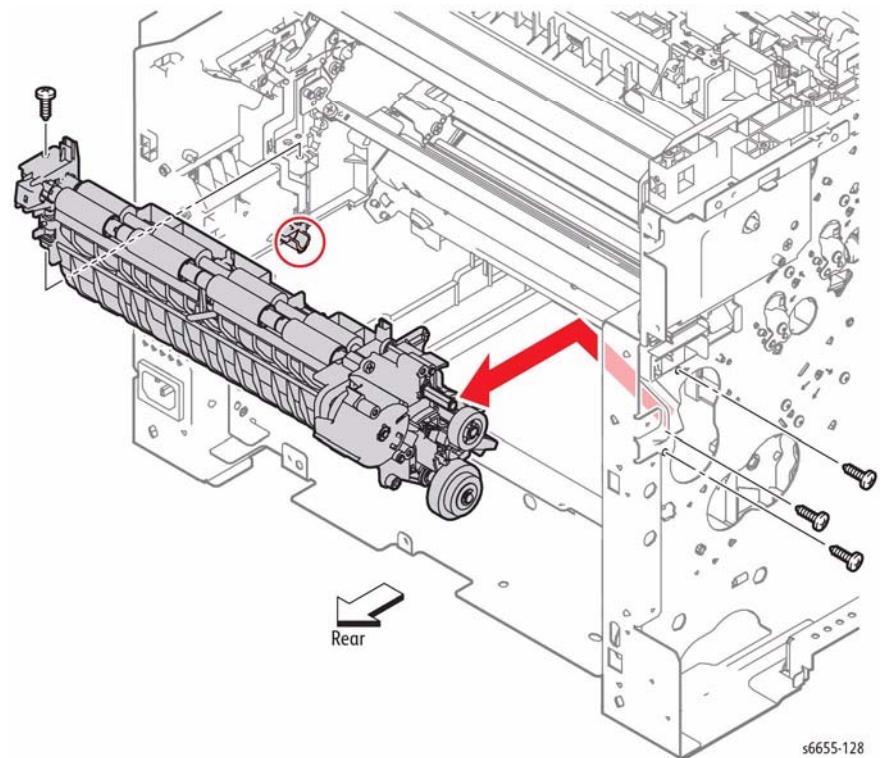

Figure 3 Remove the Registration Chute Assembly
15. Refer to Figure 3 to locate and remove the four screws (silver, tapping, 8 mm) that attach the Registration Chute Assembly.